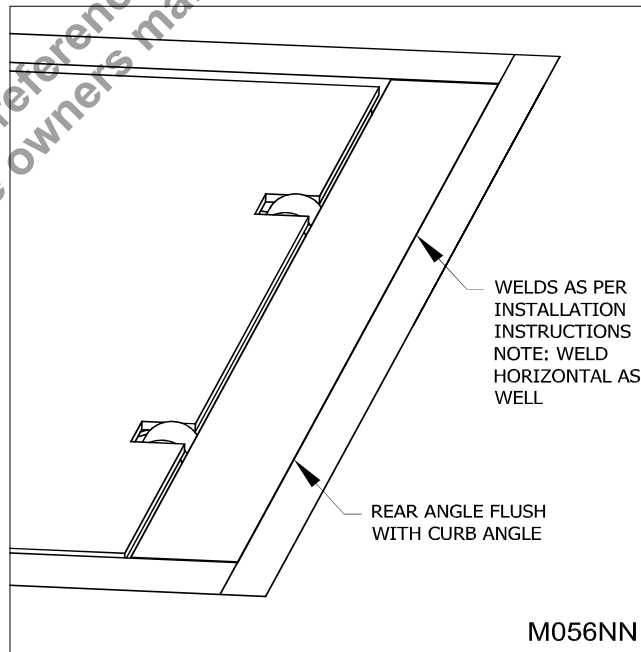

Figure 34: Rear Angle Flush with Curb Angle
4. ___ Rear angle of dock leveler in parked position showing flush and level to the floor/curb angle. (See "Figure 34: Rear Angle Flush with Curb Angle" on page 30)